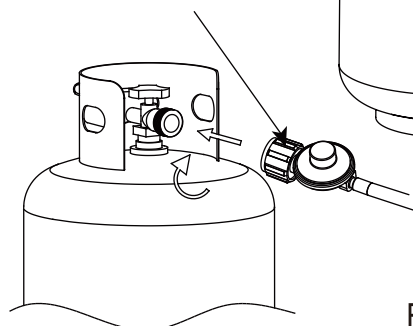
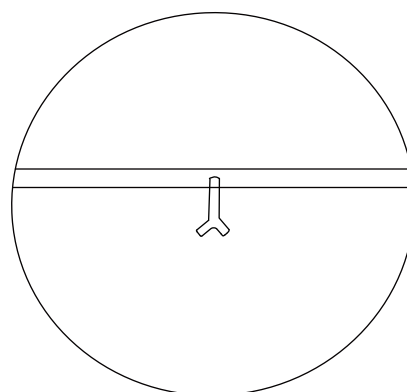

Figure 9
Figure 10
STEP 7: Place the gas cylinder into the cylinder holder (figure 9), secure the cylinder by tightening clockwise the bolt (figure 10) found on the cylinder holder, so the cylinder cannot move from side to side or fall down.